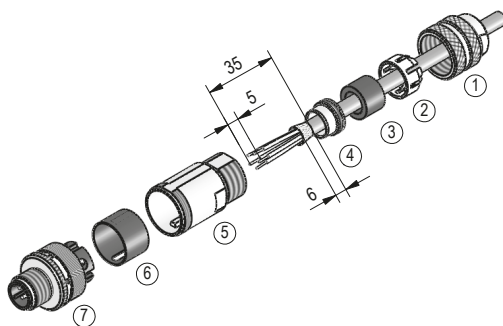

Fig. 3: Straight mating connector M12
- Accessory SIKO art. no. "87601" M12 D coded (plug pin 4 pole Bus) (Fig. 3).
- Accessory SIKO art. no. "83526" M12 A coded (socket 4 pole Power) (Fig. 3).
#### Mounting (Fig. 3)